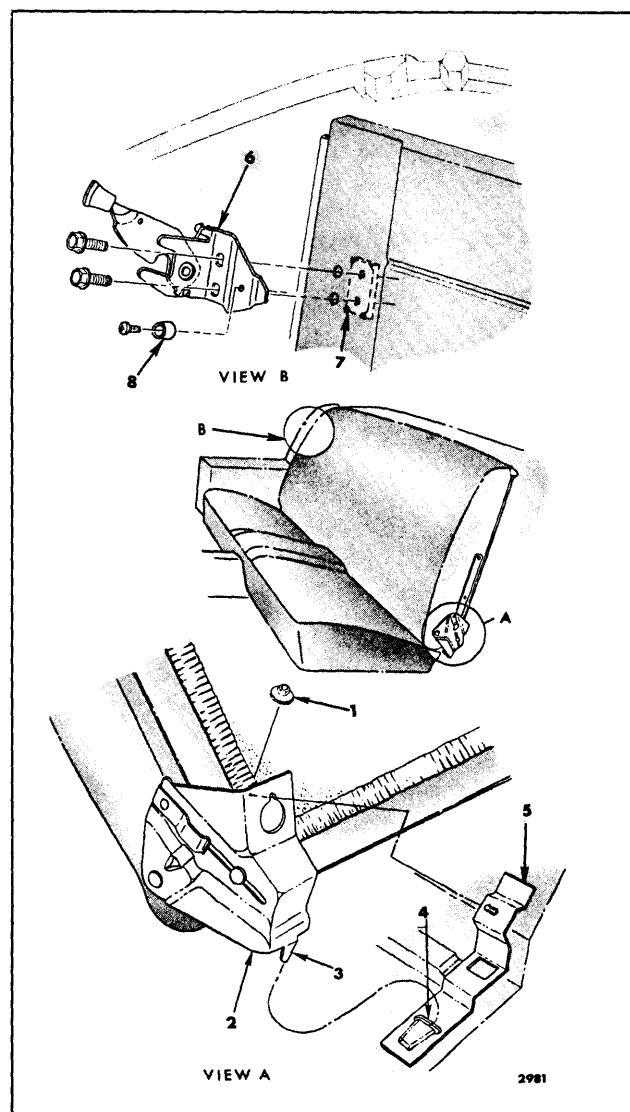

Fig. 15-59—Folding Rear Seat Back Assembly - "F" Body Styles
2. At both right and left seat back link, remove stud nut securing seat back link to anchor plate on floor pan (Fig. 15-59).
3. Lift seat back assembly upward to disengage tab of link from slot in anchor plate (Fig. 15-59) and remove seat back assembly from body.
2. Remove rubber bumper (Fig. 15-59) and remove compartment front trim foundation.
4. While holding the lock anchor plate on the back side of the seat back support, remove lock attaching screws (Fig. 15-59, View “B”) and remove lock and anchor plate.